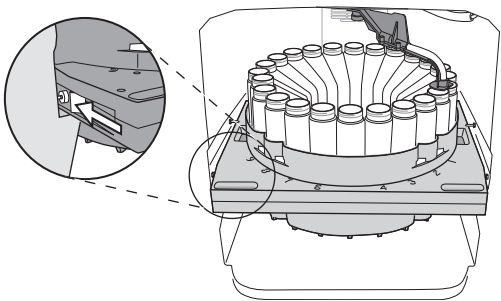

Figure 2-3 The 24-bottle rack is held in place by a latch on the left side
5. Slide the rack along the guides. Push the rack in until the left-side latch (inset, Figure 2-3) secures the rack.